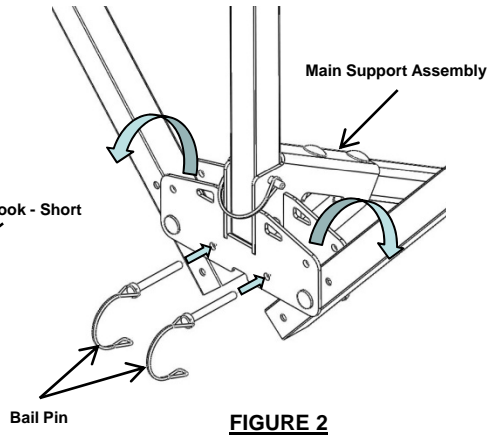

FIGURE 2
2. Rotate side tubes to the horizontal position as illustrated. Lock side tubes in position with bail pins in lower position as illustrated. (Fig 2)